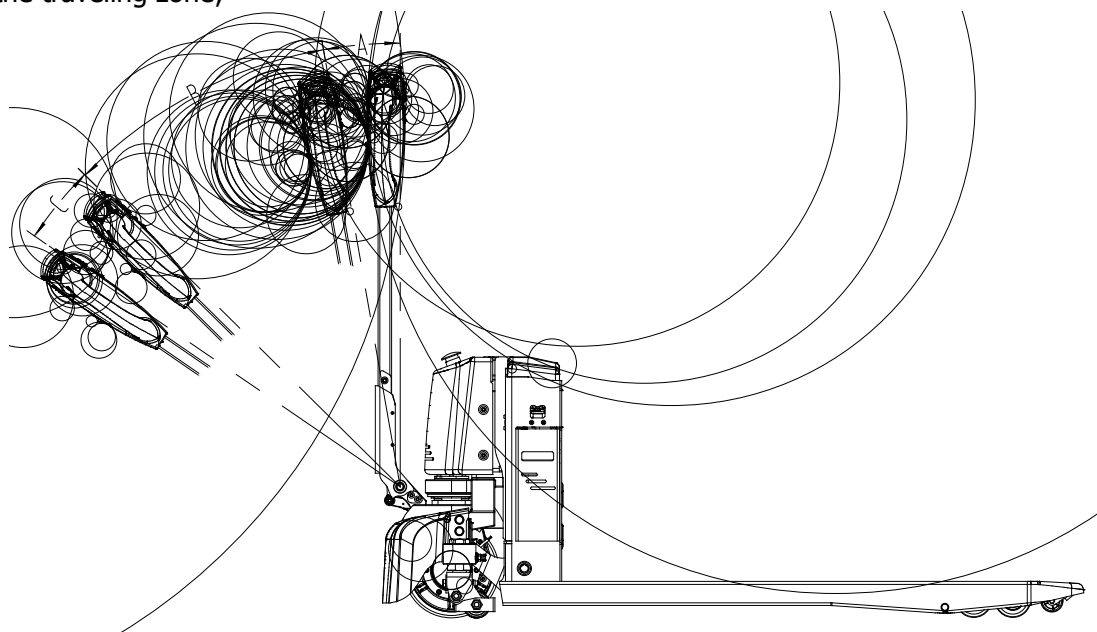

Figure 15
- Turn the handle to A or C quickly for emergency braking (Figure 15); the brake will lock the wheel to achieve an emergency braking.